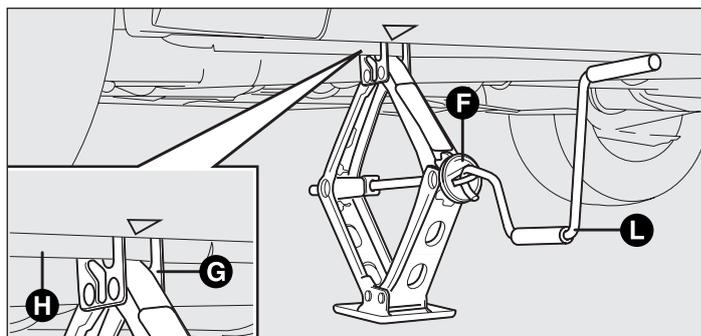

fig. 147
- operate device F-fig. 147 to extend the jack until the top of the jack G fits correctly into jacking point H;
- ❑ turn the jack handle L-fig. 147 to lower the car, and remove the jack;